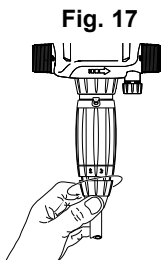

Fig. 17
- Take off the suction tube of product (Fig. 17).